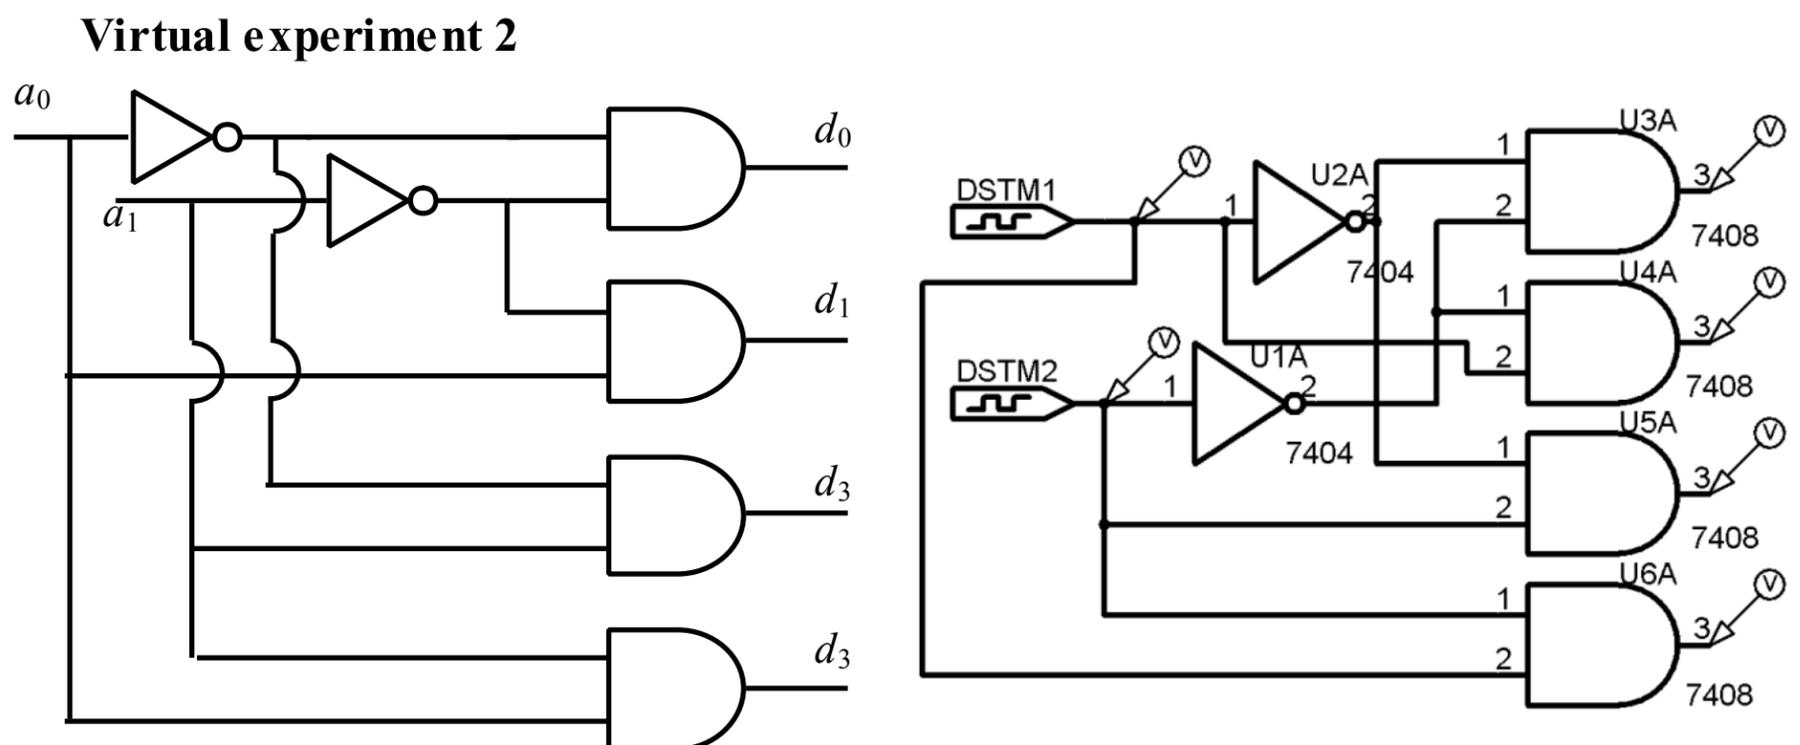

Figure 2. Scheme for virtual experiment 2
VE 2.1. In Schematic unit draw a scheme of 2-to-4 decoder as shown on fig. 2.
Use following parts: “7408” (four parts) as models of AND gate ICs 7408; “7404” (two parts) as models of NOT gate ICs 7404; “STIM1” (two parts) as models of digital input signals; voltage probes as shown on fig. 2.
- What are the purposes of logic gates at fig. 2?